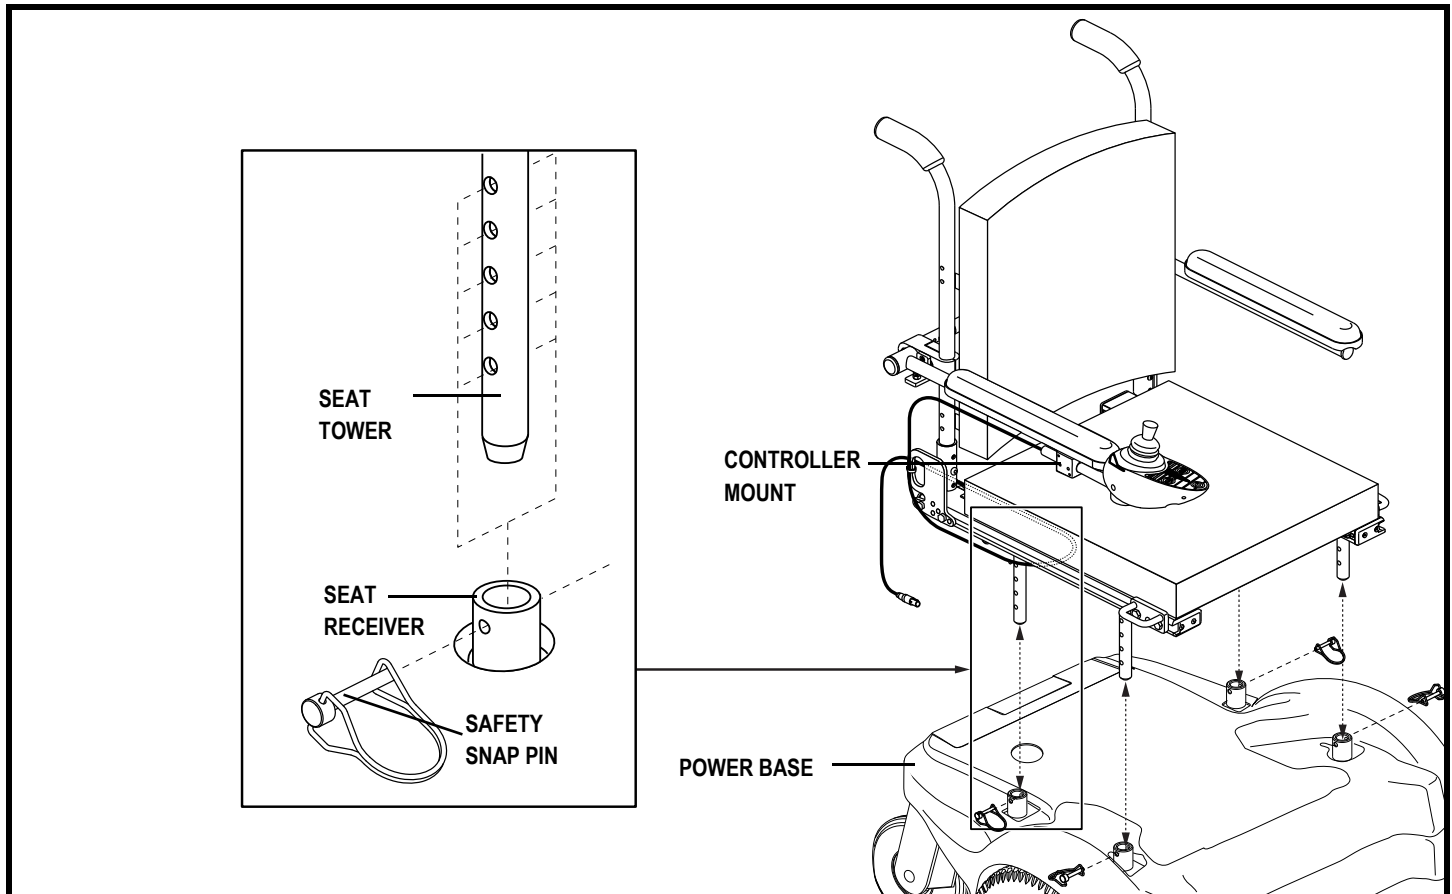

Figure 10. Seat Installation/Removal (Typical)
3. Align each seat tower with the corresponding seat receiver. See figure 10.
7. Loosen the setscrews on the controller mount. See figures 10 and 14.
3. Remove the safety snap pins from the seat receivers. See figure 10.